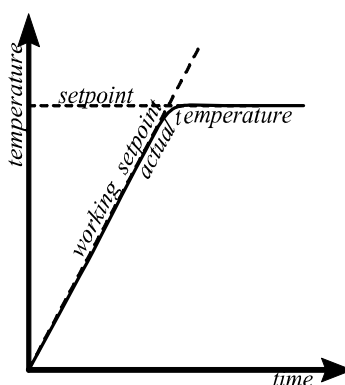

fig 2 - control with
- By using one program segment, the control can be extended to include ramp-to-setpoint. Fig.2 shows the effect.
Note that to use the Ramp Rate feature, as in Fig. 2, it is necessary to create a program. See the following sections.